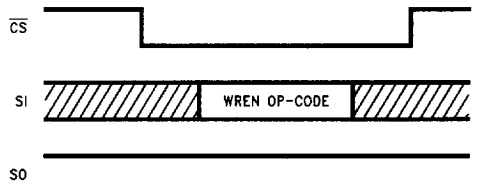

FIGURE 8
**WRITE ENABLE (WREN):** When VCC is applied to the chip, it "powers up" in the write disable state. Therefore, all programming modes must be preceded by a WRITE ENABLE (WREN) instruction. Additionally the WP pin must be held high during a WRITE ENABLE instruction. At the completion of a WRITE or WRSR cycle the device is automatically returned to the write disable state. Note that a WRITE DISABLE (WRDI) instruction or forcing the WP pin low will also return the device to the write disable state. See Figure 8.